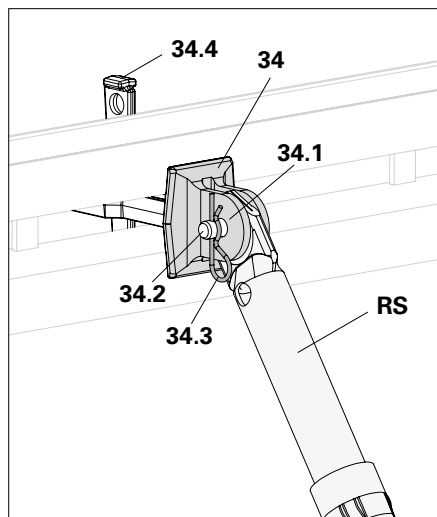

Fig. A8.04
Connect Push-Pull Prop (RS) and connection lugs (34.1) with bolts (34.2) and cotter pins (34.3). (Fig. A8.04)